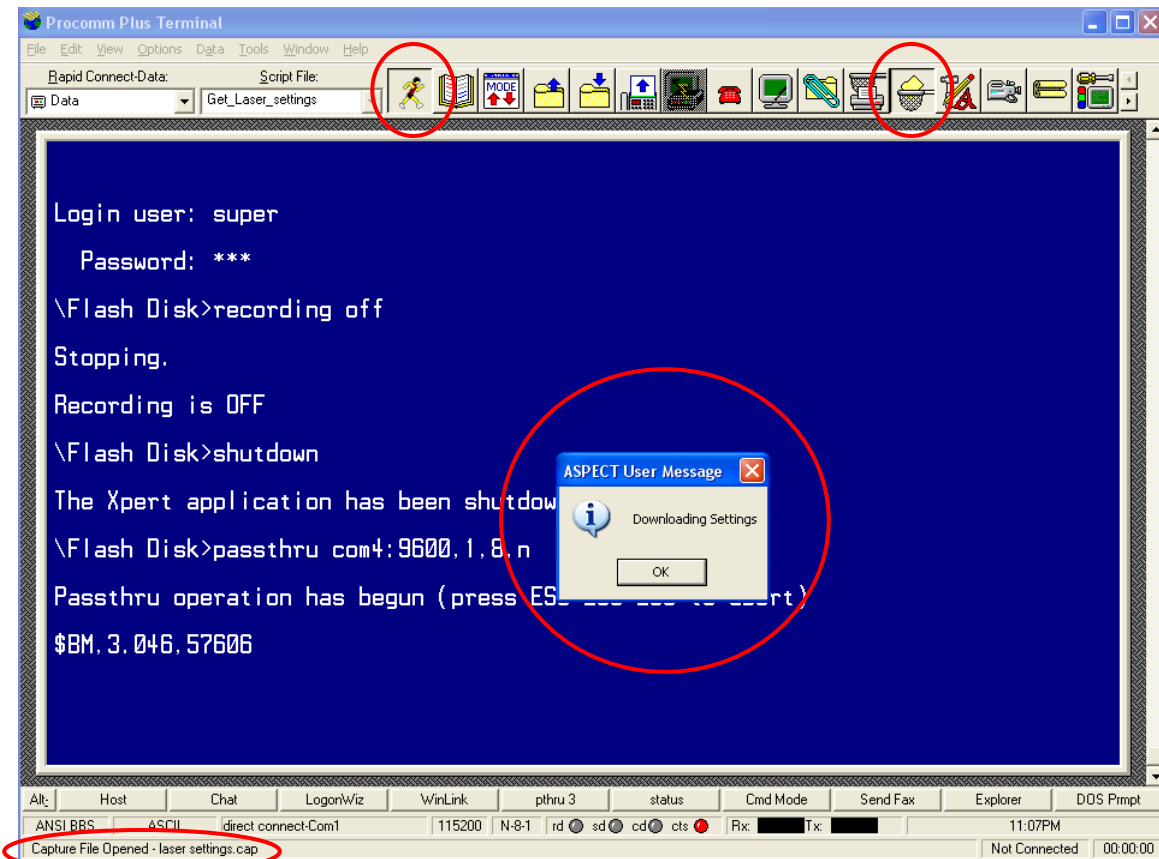

Figure 23
7. After you press the **STOP/STOP SCRIPT** button, the “running man” will be indented, as will the **CAPTURE** button. At the lower left of the screen the Capture file status will change from **closed** to **laser settings.cap** (fig. 23).